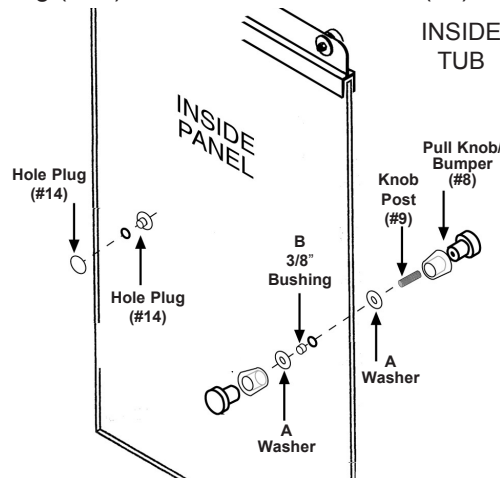

Figure 9
- J. To install the Pull Knob/Bumpers (#8) and Knob Post (#9), refer to Figure 9 as you attach the other two Pull Knob/Bumpers (#8) back-to-back on the Inside Door Panel (#6). Insert a 3/8” Bushing (#7B) into the hole in the glass nearest the shower head. Assemble a threaded Knob Post (#9) and Pull Knob/Bumper (#8) along with a Clear Plastic Washer (#7A) as described in Step 10-E. Insert the Knob Post (#9) through the 3/8” Bushing (#7B) in the Inside Door Panel (#6).